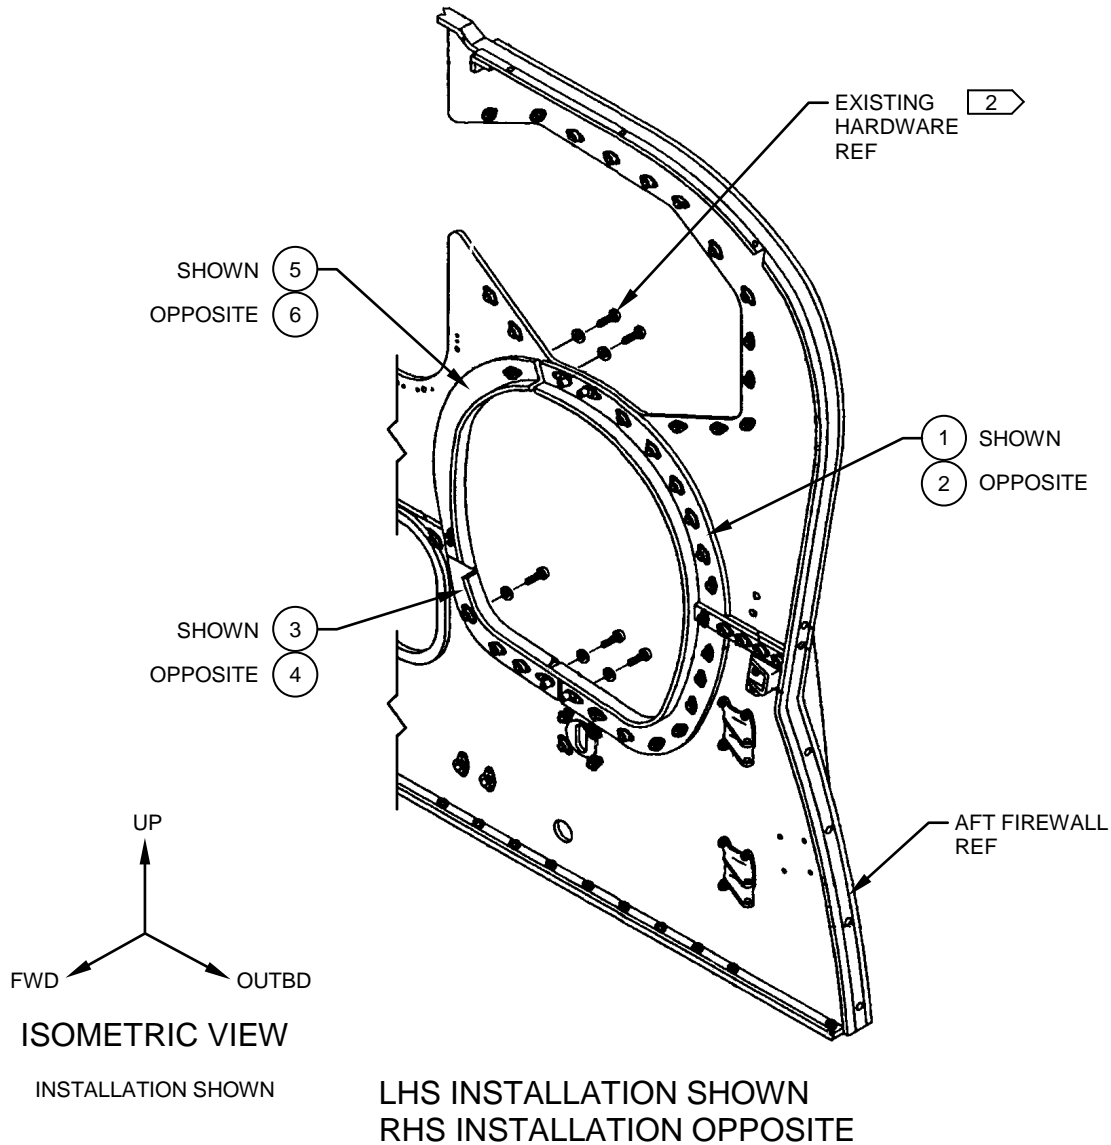

Figure 2
6. Install the Stiffener, Assy, Outbd, LHS (Item 1), Stiffener, Assy, Lower, LHS (Item 3) and Seal, Assy, Inbd, LHS (Item 5) on the AFT Firewall using the existing hardware as shown. Reference Figure 2 and Pennant Note 2.